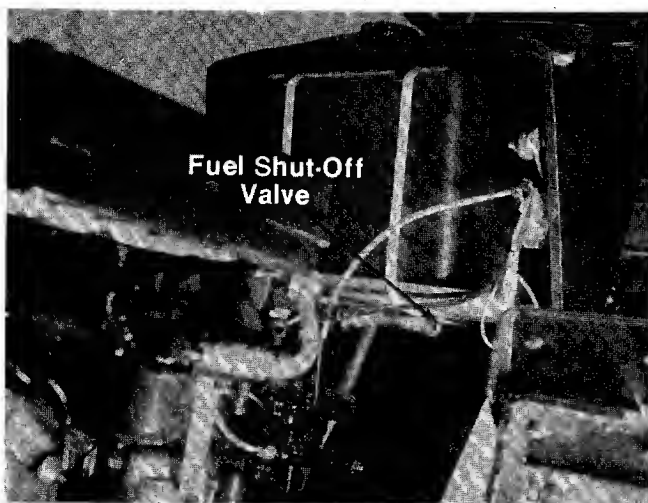

FIGURE 34.
2. Close the fuel shut-off valve located under the gasoline tank. See figure 34.